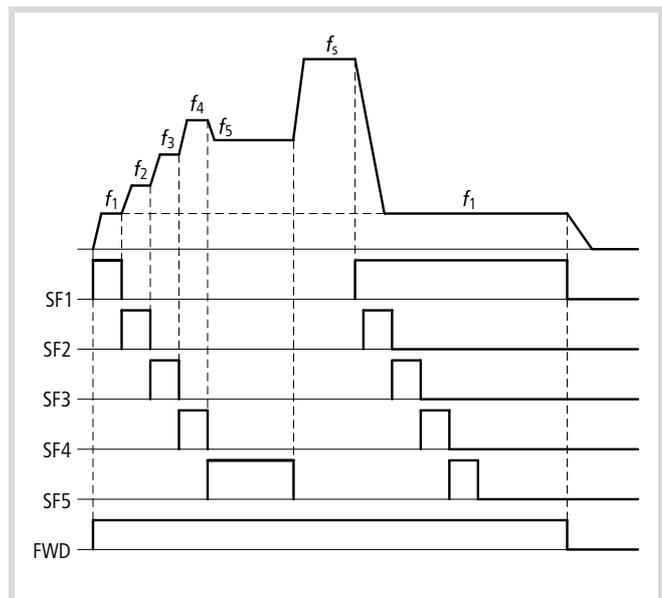

Figure 57: Function chart for bitwise fixed frequency selection (SF1 to SF5)
- ▶ Select the defined fixed frequencies by activating the respective digital inputs (→ fig. 57).
You do not have to use all five inputs. You can, for example, set only one fixed frequency. The priority of the fixed frequencies is specified through the digital input. Fixed frequency SF1 has the highest, and SF5 the lowest priority (→ fig. 57).